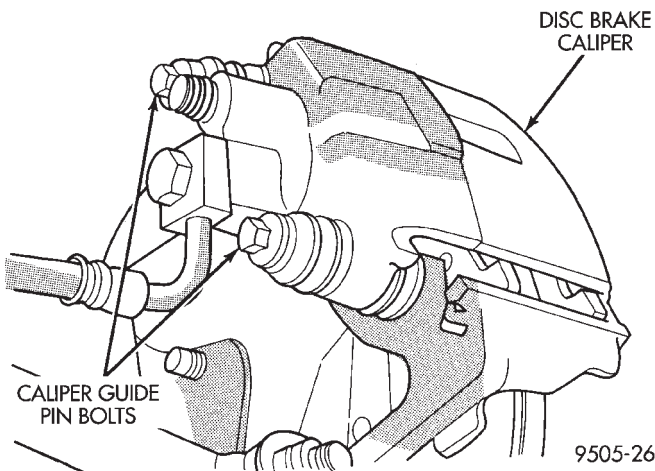

Fig. 93 Caliper Guide Pin Bolts
- (1) Raise vehicle on jackstands or centered on a hoist. See Hoisting in the Lubrication and Maintenance section of this manual.
- (2) Remove rear wheels and tires from vehicle.
- (3) Remove the 2 guide pin bolts mounting the caliper to the adapter (Fig. 93).
(5) Install the caliper guide pin bolts (Fig. 93). Tighten the caliper guide pin bolts to a torque of 22 N·m (192 in. lbs.).
(6) Install wheels and tires.
(7) Tighten the wheel mounting stud nuts in proper sequence until all nuts are torqued to half specification. Then repeat the tightening sequence to the full specified torque of 135 N·m (100 ft. lbs.).
(8) Remove jackstands or lower hoist.
(9) Check brake fluid level.